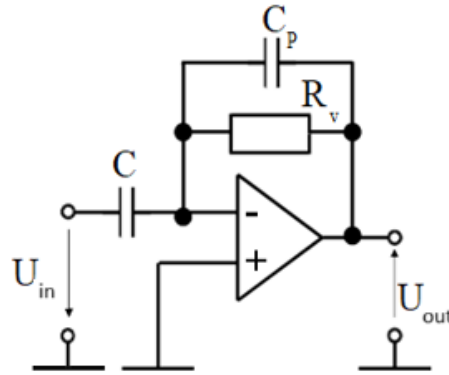

Figure 9: Differentiator circuit
With a differentiator circuit (Fig 9), an output voltage proportional to the rate of change of the input voltage can be produced. The input voltage charges and discharges a capacitor, and the resulting current through the capacitor is converted into a voltage. Since the inverting input is considered a virtual ground, the current flowing into and out of the capacitor passes through resistor R_v from the output toward the virtual ground. The voltage across R_v is the output voltage, which is proportional to the rate of change of U_{in} . For a positive, linear change in the input voltage, a constant negative voltage appears at the output of the operational amplifier. The voltage inversion results from the fact that the input signal is applied to the inverting input of the amplifier, thus forming an inverting amplifier.
- M4: Examine the operation of the differentiator circuit using 1 kHz, 100 mV sine, square, and triangle inputs (Fig 9)! Let $C = 10 \text{ nF}$, $R_v = 100 \text{ k}\Omega$, $C_P = 100 \text{ pF}$! What is the role of C_P ? Try the circuit both with and without C_P , and describe your observations! Display the input signal on the oscilloscope as well, and examine the output signal as a function of it. Include images of the observed waveforms in the report.